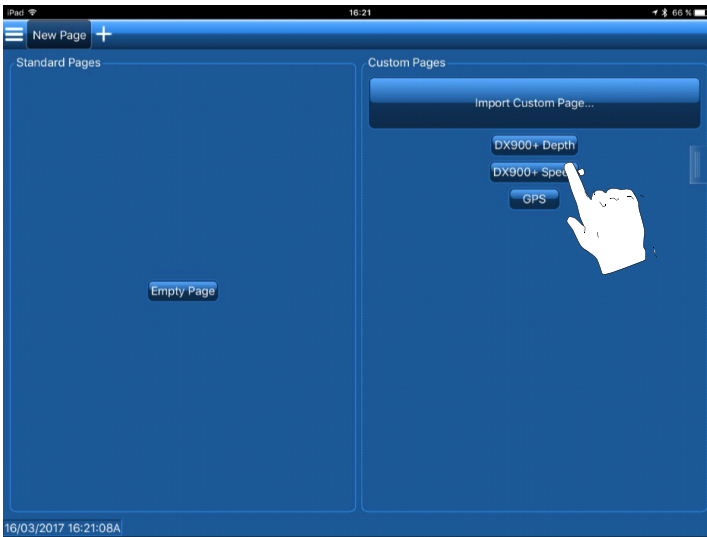

Figure 21. Predefined display page (DX900+ Speed shown)
5. Touch the button that matches your sensor (Figure 21). A page will open displaying the real-time data from the sensor.